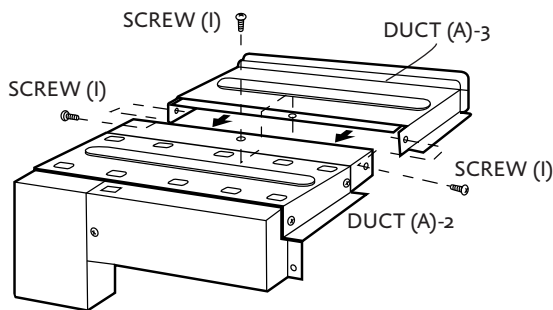

Figure 5
D. Position DUCT (A)-3 on top of the oven and insert it into DUCT (A)-2. Secure DUCT (A)-3 using three SCREWS (I) provided. See Figure 5.